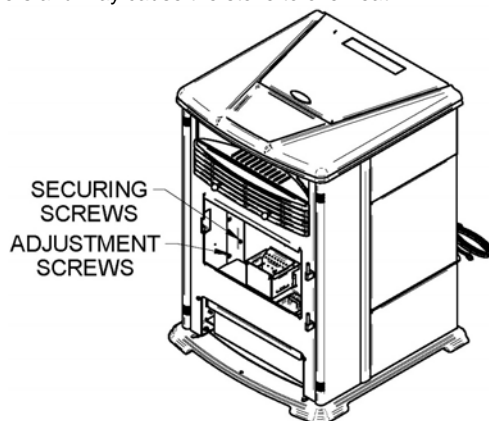
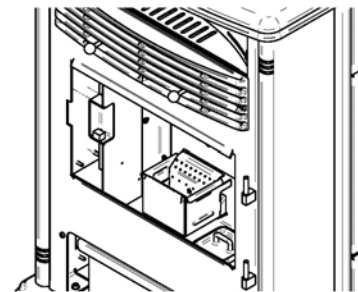
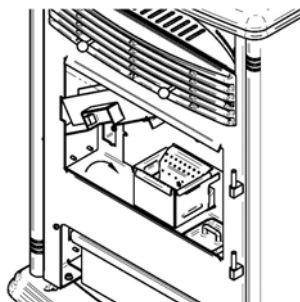
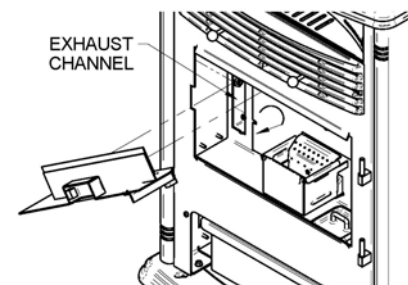

Figure 47
Figure 48
Figure 49
Figure 50
- c. **Chamber walls**: Periodically, you must vacuum the ashes that may have accumulated on the main walls of the combustion chamber. **START BY REMOVING THE DECORATIVE MASONRY-LIKE PANELS, WHICH ARE SIMPLY HELD BY CLIPS.** The use of a vacuum is necessary. There is also a cleaning outlet located behind the left side panel of the combustion chamber. Remove this panel using a screw driver. Loosen the adjustment screws then remove the securing screws(Figure 47). Slide the wall toward right(Figure 48), tilt it (Figure 49) then remove it from the combustion chamber. Scrape off ashes. You will notice a small rectangular cleaning outlet. Inspect behind this outlet (see Figure 50) Insert the vacuum tip through the cleaning outlet and clean thoroughly. **REPEAT THIS OPERATION AT LEAST ONCE PER TON OF PELLETS BURNED UNTIL YOU ARE FAMILIAR WITH HOW ASHES ACCUMULATE WITH YOUR OPERATING PRACTICES.**